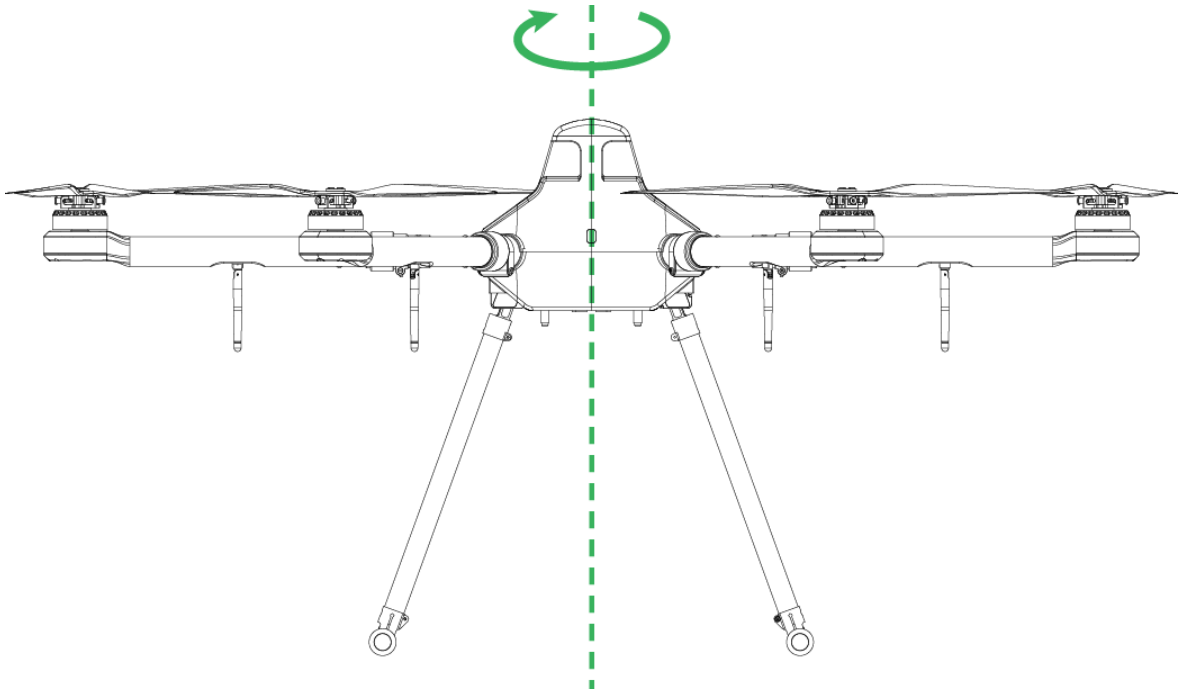

Figure 3-29
- Step 3 Keep the aircraft horizontal and rotate it for 360° horizontally, as shown in Figure 3-29.